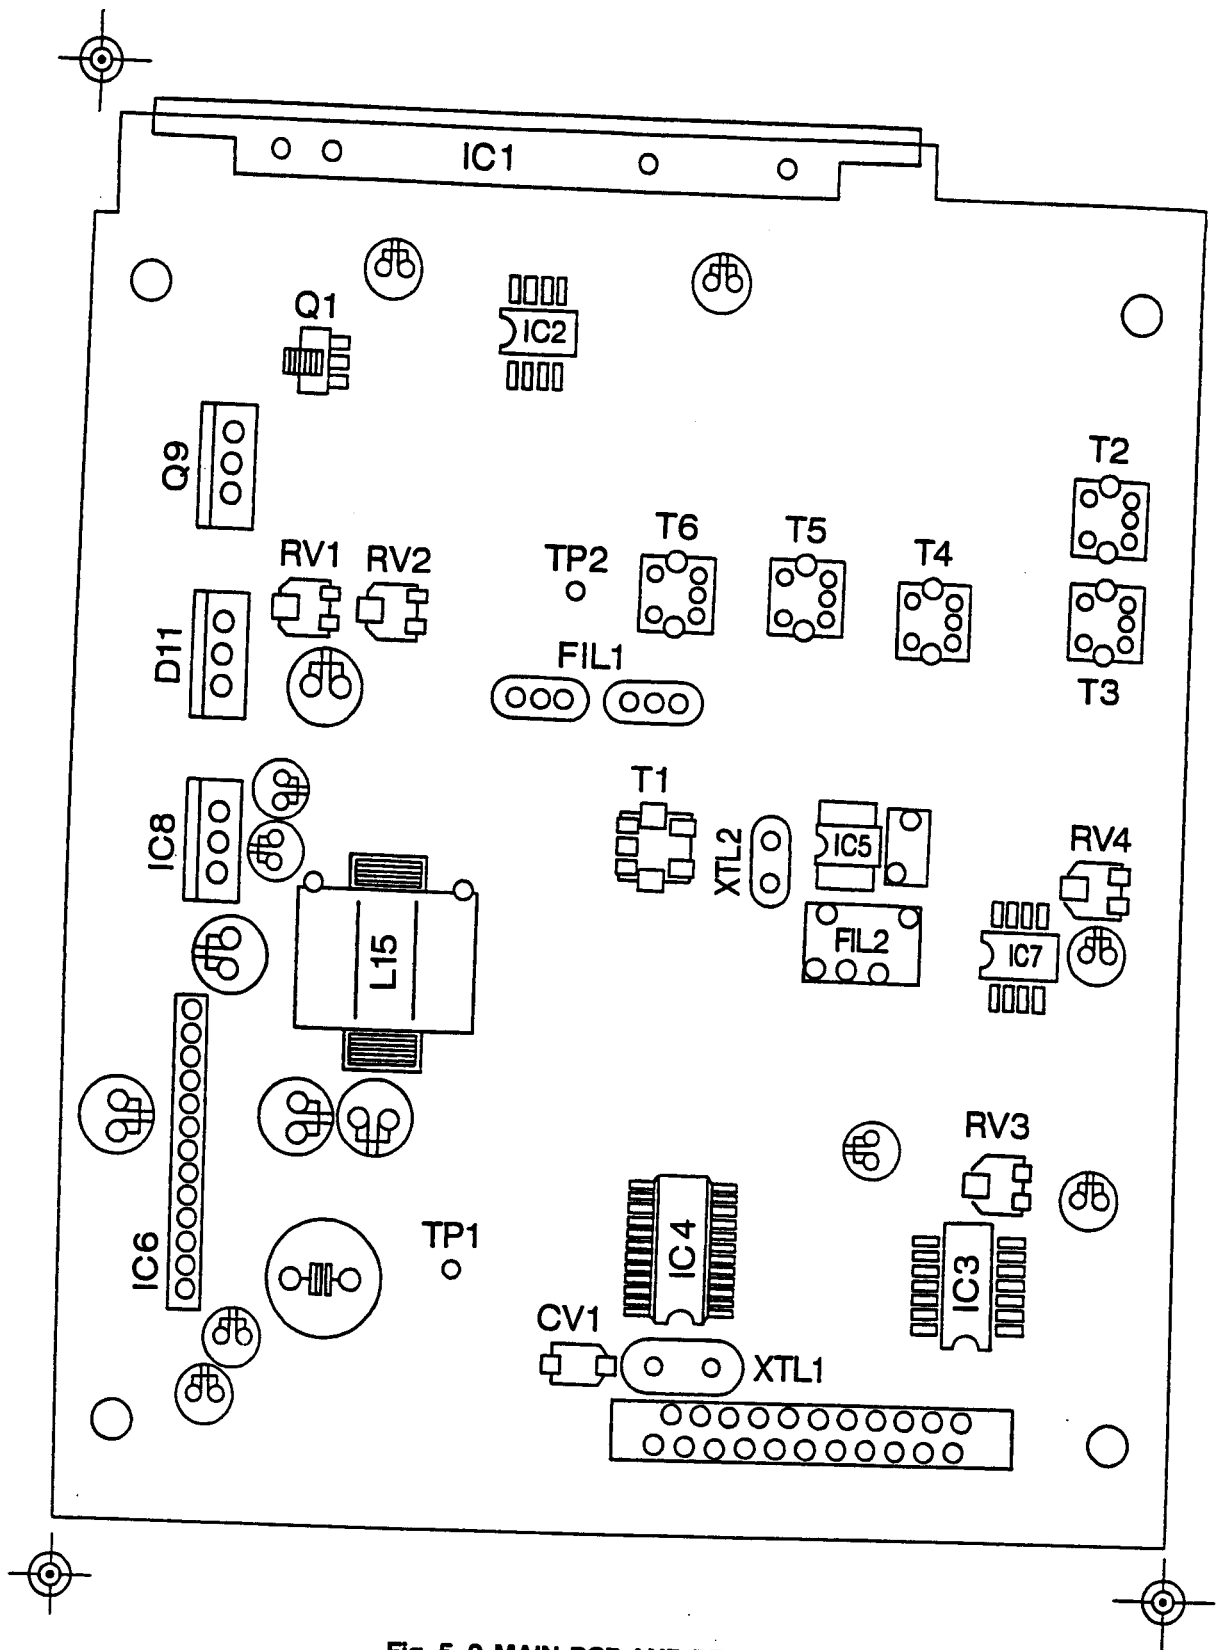

Fig. 5-2 MAIN PCB AND RF MODULE
- 2) Connect a digital voltmeter or high impedance tester (positive lead to TP1, negative to ground) and adjust T1 on the RF module as shown in Table 5-1. (See Fig. 5-2.)
- 2) Adjust trimmer capacitor CV 1 on the RF module for the desired frequency (156.800 MHz) ± 200 Hz on the frequency counter. (Refer to Fig. 5-2.)
- 2) Set the audio oscillator output to -20 dBm, 300 Hz and adjust RV3 on the RF module for a deviation of 4.5 KHz ± 300 Hz. (See Fig. 5-2.)
- 1) Connect an RF power meter to the antenna connector through the coupler. Key to transmit and adjust RV1 and RV2 on the main PCB as shown in Table 5-2. (See Fig. 5-2.)
- 2) Set the output level of the RF signal generator and adjust T2–T6 on the RF module as shown in Table 5-3. (See Fig. 5-2.)
- 3) Connect a frequency counter to TP2 on the MAIN PCB and adjust VR4 to obtain 1050 kHz \pm 5 Hz on the frequency counter. (See Fig. 5-2.)